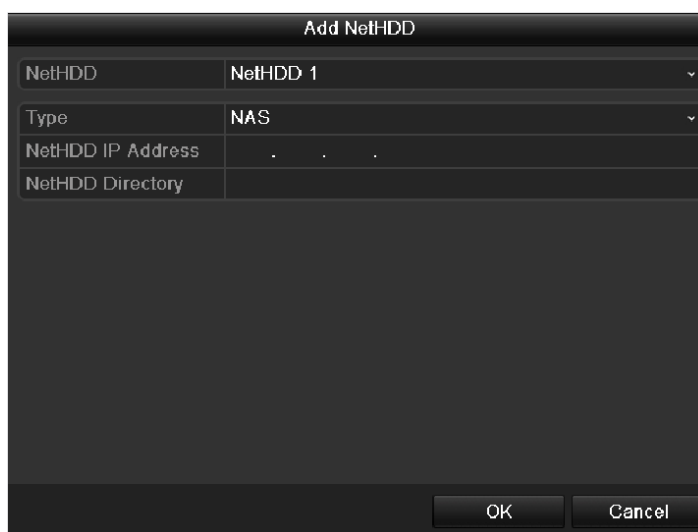

Figure 10.6 Adding NetHDD Interface
2. Click the **Add** button to enter the Add NetHDD interface, as shown in Figure 10.6.